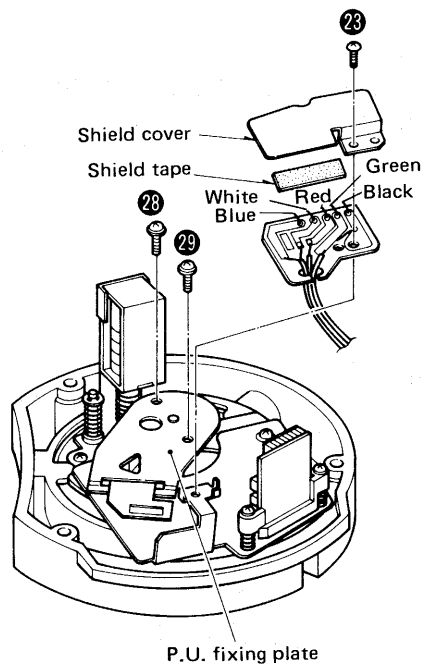

Fig. 6
3. Remove the shield cover setscrew (Fig. 6 : 23) and shield cover.
4. Tear off the shield tape and unsolder the 3 lead wires from the phono output circuit board. (Fig. 6)
2. Unsolder the 5 lead wires (blue, white, red, green and black) from the phono output circuit board (Fig. 6).
3. Remove the 2 PU fixing plate setscrew (Fig. 6 : 28 , 29) and the PU fixing plate.